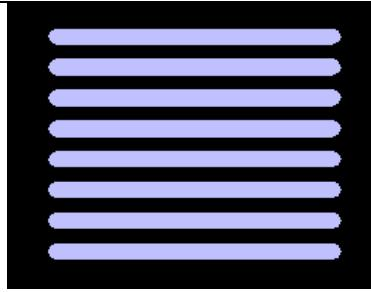

Figure 42 Bar Via width must be exactly 76um
- All bar vias must be exactly 76um width. In Figure 42 an example of a bar via array for thermal cooling is depicted.